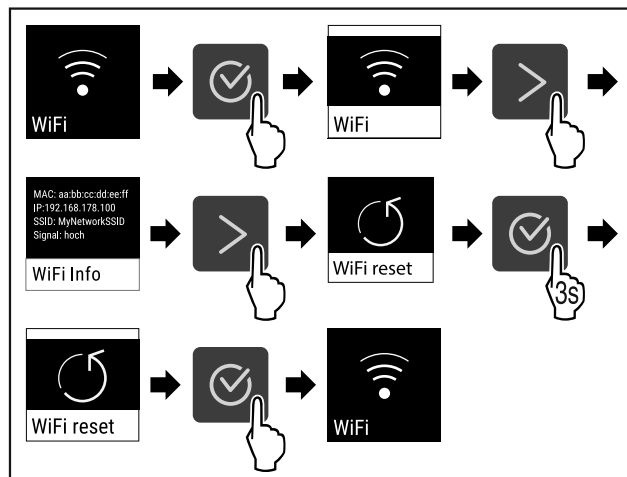

Fig. 88
- Complete the steps (see Fig. 88).